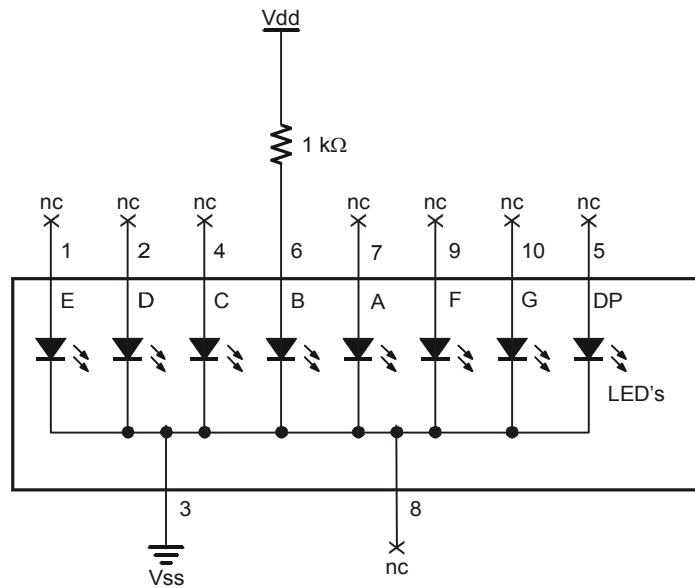
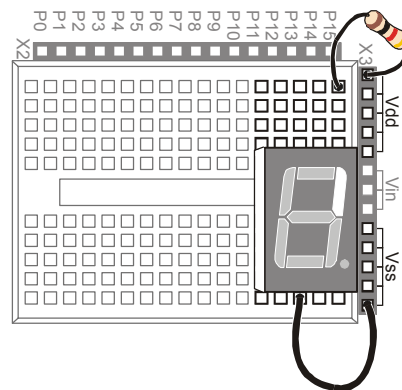

Figure 6-6
Figure 6-7
- √ Disconnect power, and modify the circuit by connecting the resistor to the B LED input as shown in Figure 6-6 and Figure 6-7.